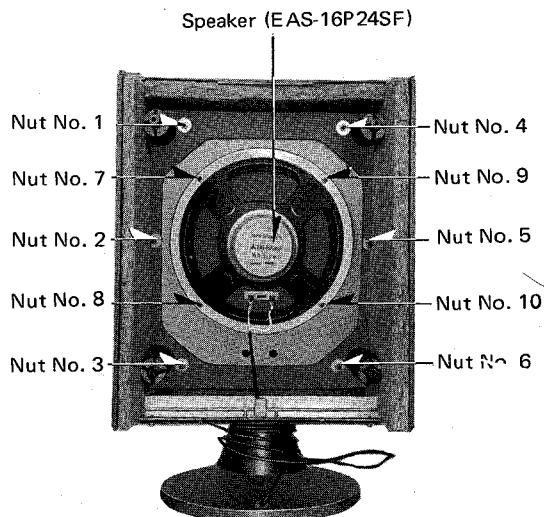

Fig. 6
3. Remove four (4) speaker mounting nuts, Nos. 7-10, as shown in Fig. 6.
2. Remove four (4) speaker mounting nuts, Nos. 7-10, as shown in Fig. 6.
3. Remove six (6) baffle board mounting nuts, Nos. 1-6, as shown in Fig. 6.